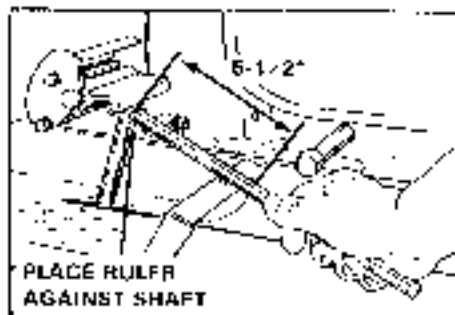
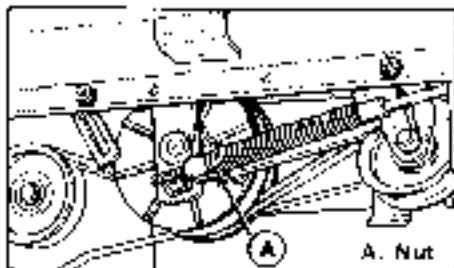

Figure 26. Pedal to Footrest Measurement
Figure 27. Adjustment Nut
10. Measure the distance from the pedal shaft to the forward edge of the footrest as shown in figure 26. If it measures 5-1/2 inches (140 mm), go on to step 11. If not, tighten the nut (A, figure 27) toward the spring to increase the measurement or loosen the nut to decrease the measurement. Recheck the measurement and adjust the nut as necessary to achieve the correct measurement.